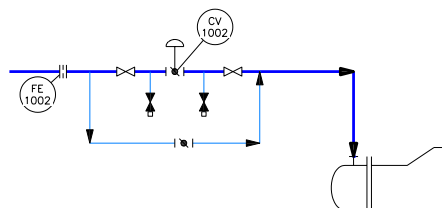

Figure 2-71 Location of the orifice on the steam inlet line of the heat exchanger
4. Similarly, place another restriction orifice on the steam inlet pipe of the heat exchanger, refer to Figure 2-71. Next, enter the following values in the **Assign Tag** dialog box: